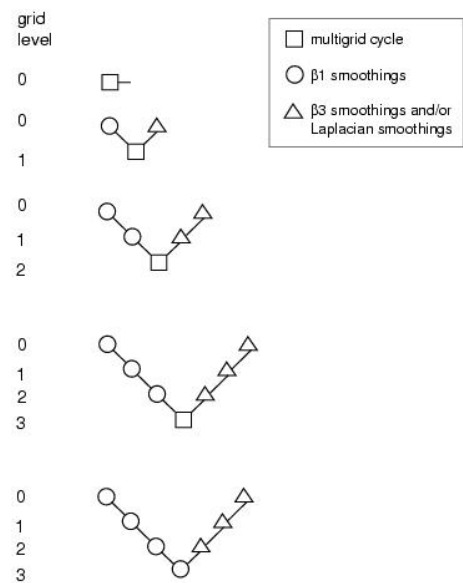

Figure 31.6.3: V-Cycle Multigrid
Figures 31.6.3 and 31.6.4 show the V and W multigrid cycles (defined below). In each figure, the multigrid cycle is represented by a square, and then expanded to show the individual steps that are performed within the cycle. You may want to follow along in the figures as you read the steps below.
In Figures 31.6.3 and 31.6.4 this step is represented by a circle and marks the start of a multigrid cycle. The high-wave-number components of error should be reduced until the remaining error is expressible on the next coarser mesh without significant aliasing.
If this is the coarsest grid level, then the multigrid cycle on this level is complete. (In Figures 31.6.3 and 31.6.4 there are 3 coarse grid levels, so the square representing the multigrid cycle on level 3 is equivalent to a circle, as shown in the final diagram in each figure.)
In Figures 31.6.3 and 31.6.4, the restriction from a finer grid level to a coarser grid level is designated by a downward-sloping line.
3. The error on the coarse grid is reduced by performing β_2 multigrid cycles (represented in Figures 31.6.3 and 31.6.4 as squares). Commonly, for fixed multigrid strategies β_2 is either 1 or 2, corresponding to V-cycle and W-cycle multigrid, respectively.
In Figures 31.6.3 and 31.6.4 the prolongation is represented by an upward-sloping line.
In Figures 31.6.3 and 31.6.4, this relaxation procedure is represented by a single triangle.